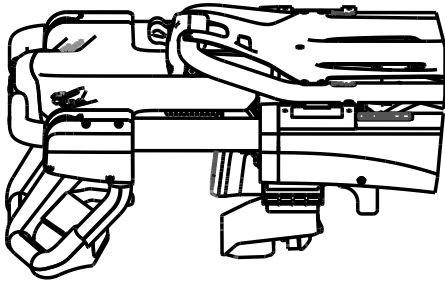
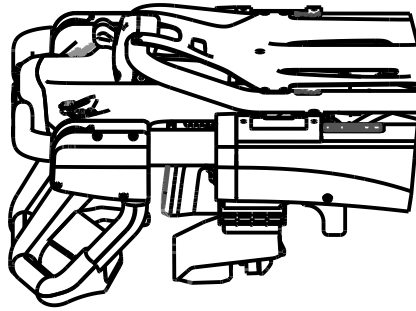
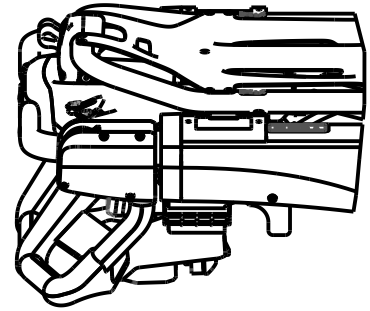

Figure 19 – Extended
Figure 20 – Mid
Figure 21 – Retracted
3. Release the foot section release lever to lock the foot section in either the extended (Figure 19), mid (Figure 20), or retracted position (Figure 21).